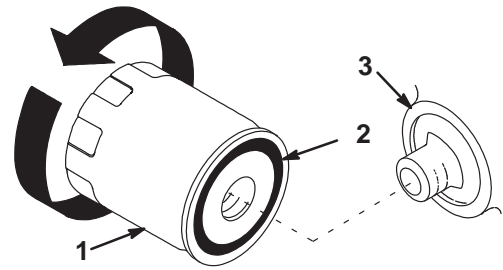

Figure 19
9. Change the oil filter, if necessary (Fig. 19).
2. Remove the old filter and wipe the filter adapter (Fig. 19) gasket surface.
3. Apply a thin coat of clean oil to the rubber gasket on the replacement filter (Fig. 19).
4. Install the replacement oil filter to the filter adapter. Turn the oil filter clockwise until the rubber gasket contacts the filter adapter; then tighten the filter an additional 1/2 to 3/4 turn (Fig. 19).